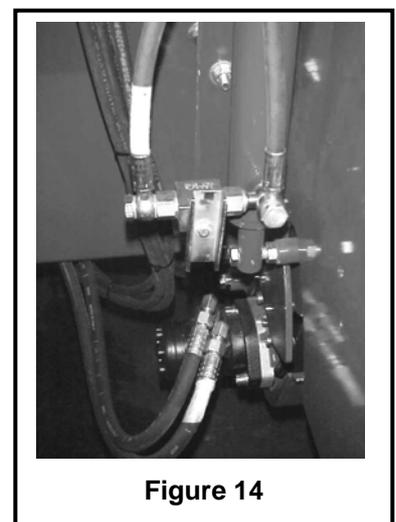

Figure 14
1. Ensure PTO is disengaged. Check that the discharge doors are closed and the safety valve next to the discharge conveyor lift cylinder is closed (figure 14).
SAFETY FIRST! Whenever the wagon is taken onto a public road, or it is not working, ALWAYS make sure that the safety valve next to the discharge conveyor lift cylinder is closed (fig. 14).
On arrival at the discharge site, open the security valve (figure 14) for the discharge conveyor lift cylinder.